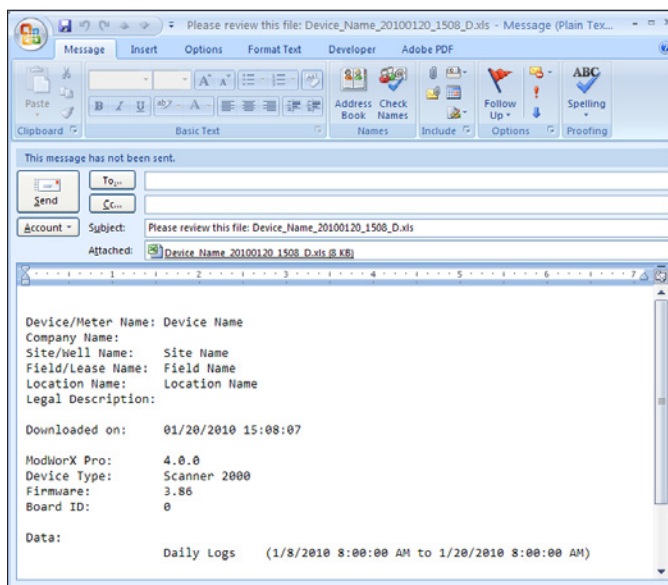

Figure 14.29
4. Click **Save** to export the data to the file. The file will automatically be attached to an email window (Figure 14.29).